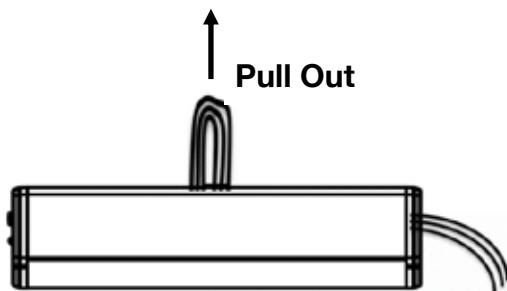

Fig. 3
2. Pull out all AC wires from top of fixture for wall and ceiling mounting (Fig. 3).